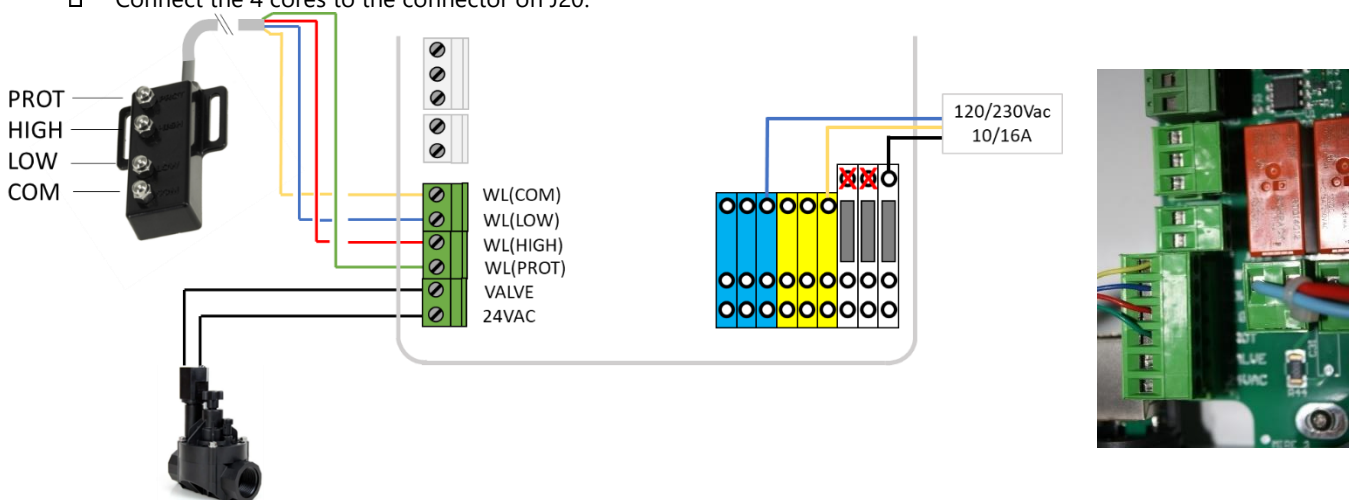

Figure 57 - Connecting Water Level
- Connect the 2-core wire from the valve solenoid to the connector on J20 marked (VALVE) according to Figure 57 - Connecting Water Level. Polarity is not important.